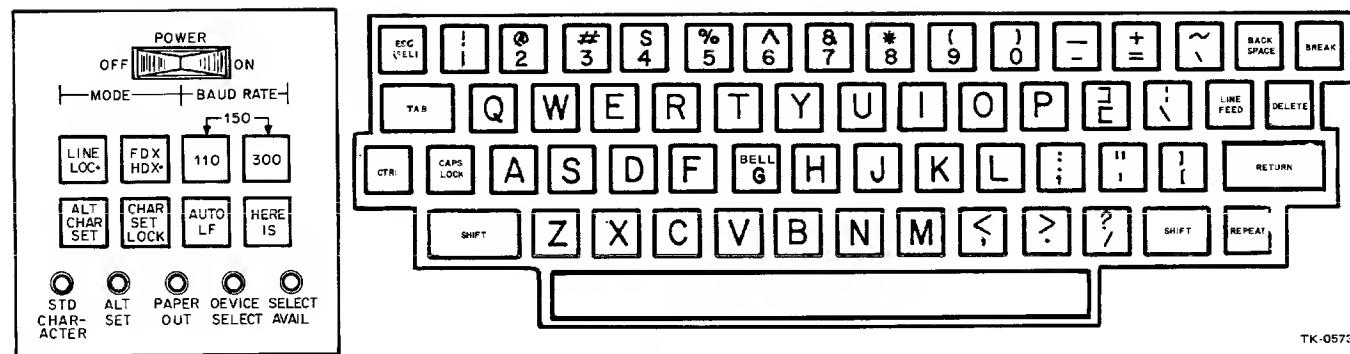

Figure 5-10 VT52 Keyboard
5.3.3.2 Keyboard – Input data to the host is entered by typing keys on the main keyboard or the auxiliary keypad (Figure 5-10). The keyboard transmits upper- and lower-case alphabetic code, numeric code, fixed control code, and user-defined control code.